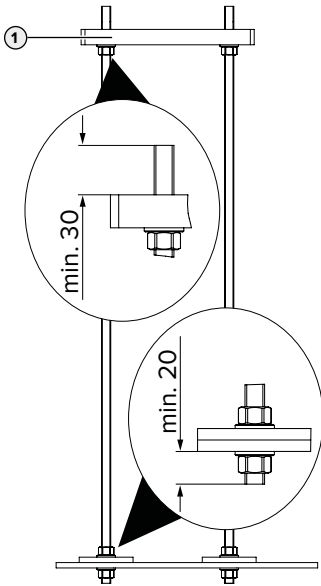

Fig. 3: Position of the washers and nuts [mm]
- ▶ Secure each flat steel bar with a nut and a washer, taking account of the Fig. 3. Make sure that the foundation fixing set is aligned in the horizontal position.
- ▶ Assemble the associated foundation or adaptor plate (1) (available as an accessory), taking account of the Fig. 3 on the foundation fixing set.